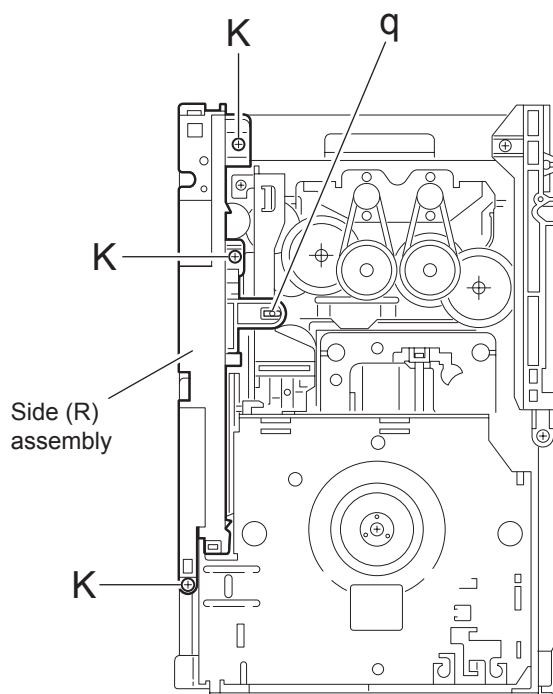

Fig.18
3.3.8 Removing the side (R) assembly (See Fig.18 ~ 22)